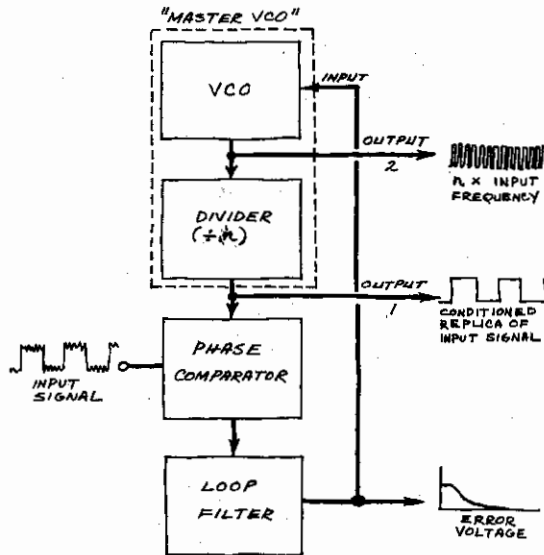

Fig. 4. A phase-locked-loop circuit with a divider.
**Frequency Synthesis.** Figure 4 shows how to synthesize exact multiples of a specified input frequency by inserting a